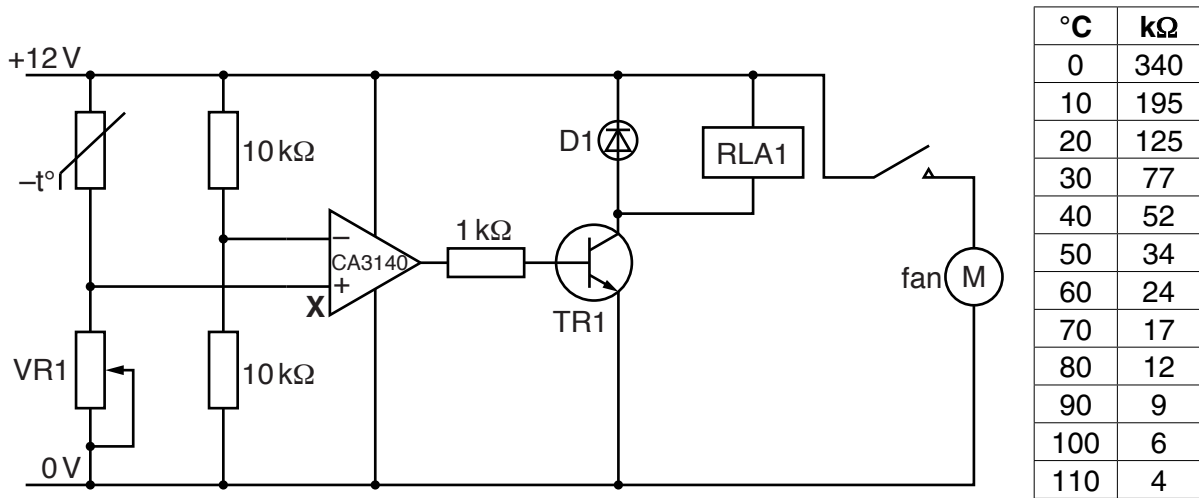

Fig. 22
(c) Fig. 22 shows the circuit for controlling a car engine cooling fan.
- (vi) Use information from Fig. 22 to give the name of the component that fits in space **A** on the PCB in Fig. 23.